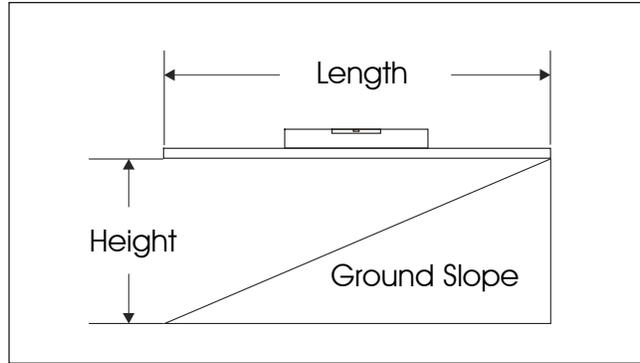

Figure 8.6 – Percent Grade Calculation
2. Holding the downhill end, raise the 2 x 4 until the level indicates that the board is level (refer to Figure 8.6).